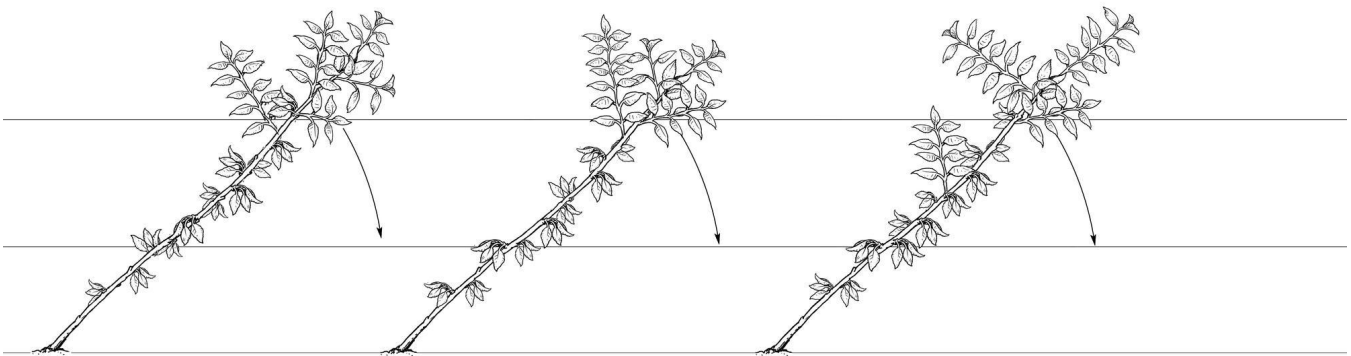

Figure 65
- Once new shoots at the terminal end are 12 inches or longer, train trees to the lowest wire by removing the initial clip and placing it further along the trunk so that the orientation is slightly above horizontal (Figures 65 and 66).